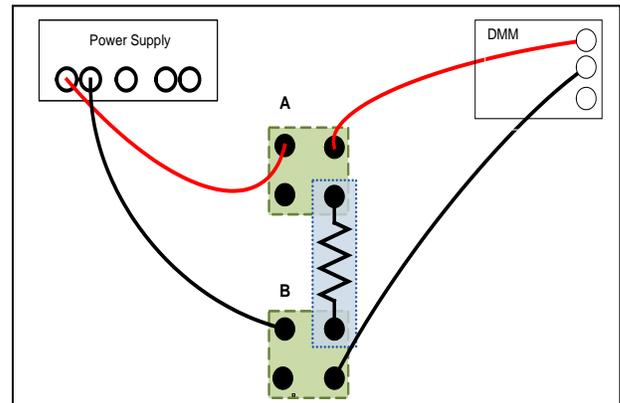

Figure 3
- Construct the circuit of Figure 3 on your QUAD by completing the following steps.